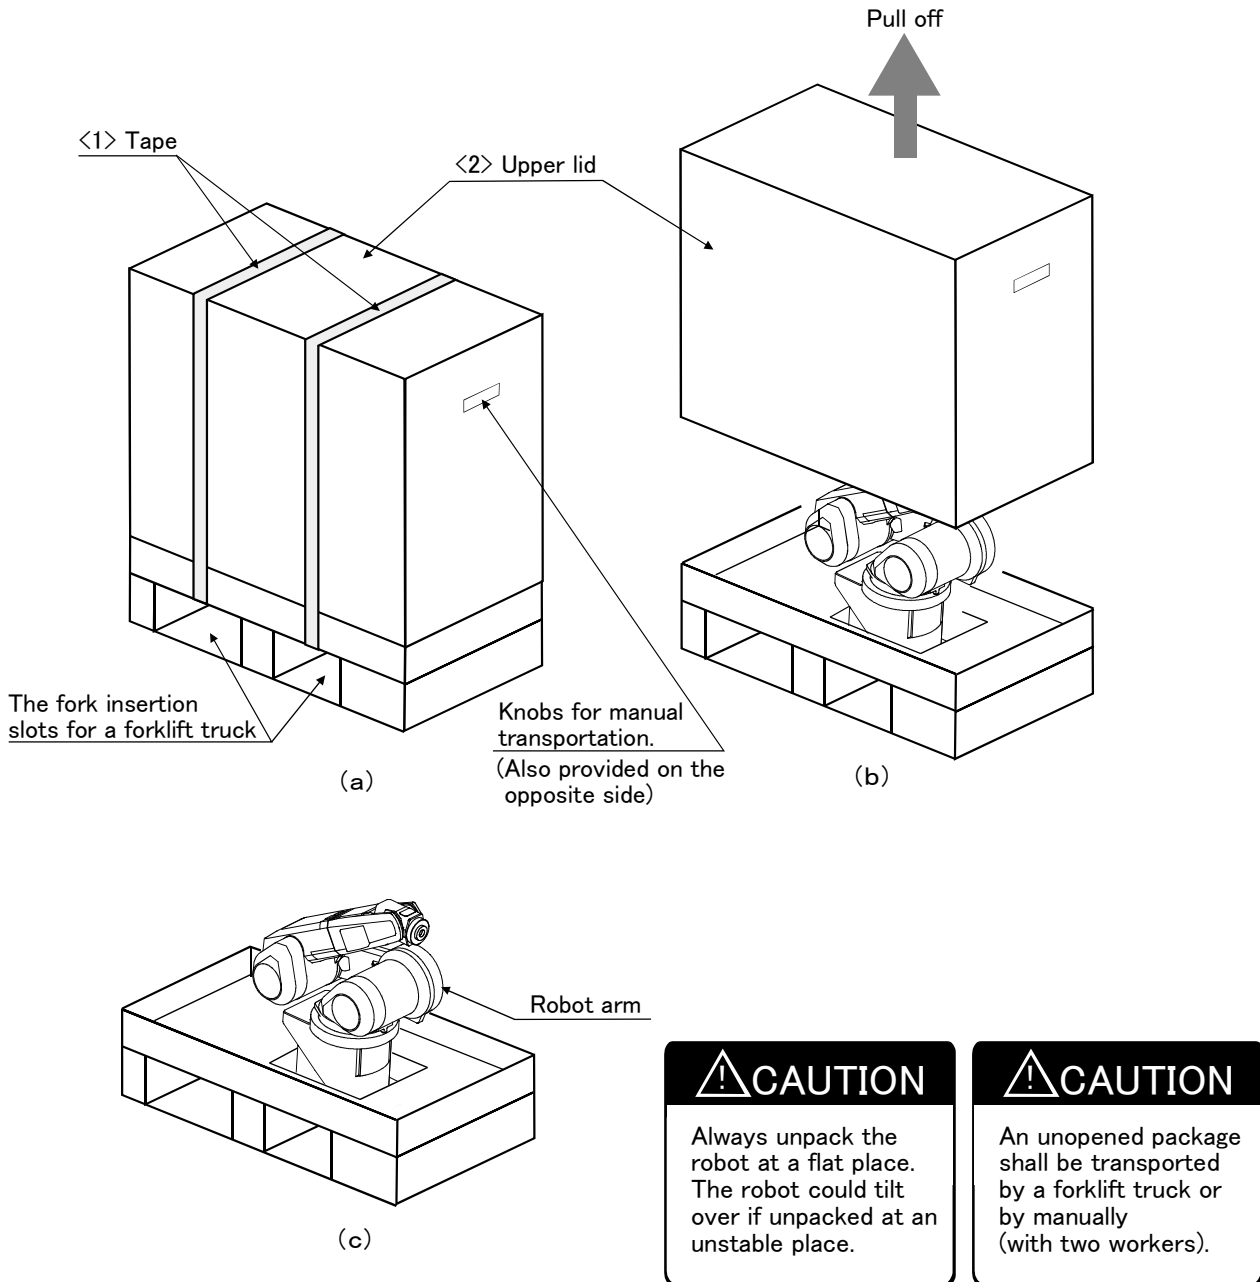

Fig.2-1 : Unpacking the robot arm
The robot is shipped from the factory in cardboard and plywood frame packing. Always refer to Fig. 2-1 and unpack the robot. Handle the robot arm according to "2.2.2 Transportation procedures(Transportation by people)". The unpacking process is shown below.
- 1) Using a knife, etc., slit the tape <1> fixing the upper lid <2> of the cardboard box. (Fig. 2-1 (a))
- 2) Pull the upper lid <2> of the cardboard box off with both hands. (Fig. 2-1 (b))
- 3) Remove the hexagon socket bolts <3> (four positions) connecting the sleeper and the base unit. (Fig. 2-1 (c))